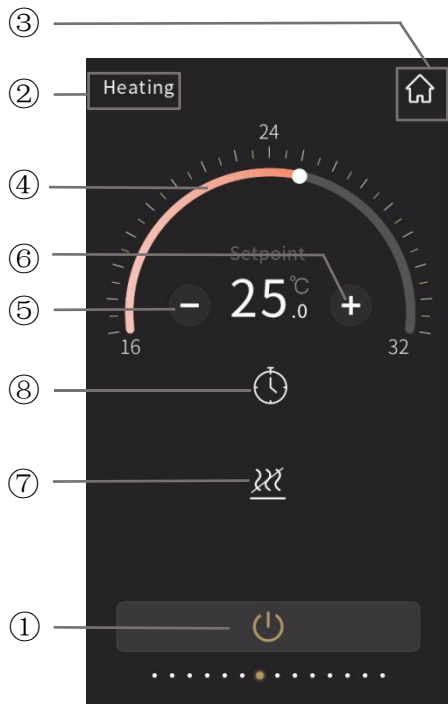
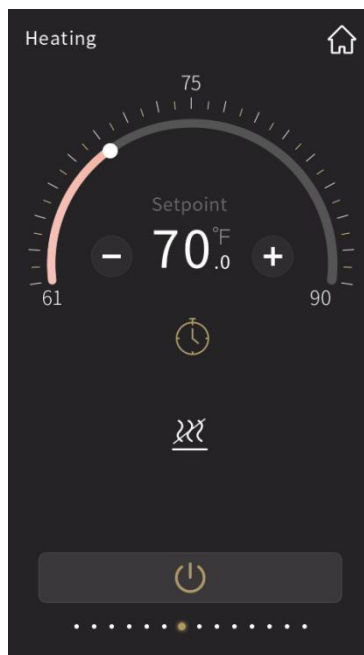

Fig.2.5.1
Fig.2.5.2
- ⑤ The function of this icon is to decrease the temperature;
⑥ The function of this icon is to increase the temperature;
Adjusting the temperature by sliding the ring slider④ or touching the icon⑤ and icon⑥. For each touching of icon⑤ and icon⑥, the adjustment range is 0.5 degrees. When the setting temperature unit is set to degrees Celsius(°C), as shown in Fig.2.5.1, adjustment range of the setting temperature is 16~32°C by default; when the setting temperature unit is set to Fahrenheit(°F), the current temperature value will automatically convert to Fahrenheit value, as shown in Fig.2.5.2, adjustment range of the setting temperature is 61~90°F by default. The temperature adjustment range can be modified through parameter setting.
⑧ Turn on timer function by touching this icon;
Icon⑧ on indicates timer turn on; icon⑧ off indicates timer turn off. Timer function can be enabled via the parameter configuration. When timer function is disabled, there would be no timer icon as shown as Fig.2.5.1 on the interface; when enabled, timer can be configured.